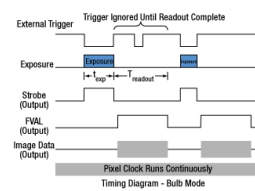

Figure 3: Bulb exposure mode. The exposure
Thermoelectric cooling should also be considered for long exposures even where the dark shot noise is not a significant contributor to total noise because cooling also helps to reduce the effects of hot pixels. Hot pixels cause a "star field" pattern that appears under long exposures. Figure 3 shows an example of this star field pattern for images taken using cameras with and without TEC cooling with an exposure of 10 seconds.
**Figure 3:** Images of the "star field" pattern that results from hot pixels using our (a) standard non-cooled camera and (b) our camera cooled to -20 °C. Both images were taken with an exposure of 10 seconds and with a gain of 32 dB (to make the hot pixels more visible). Please note that in order to show the pattern the images displayed here were cropped from the full-resolution 16 bit images. The full size 16 bit images may be downloaded here and viewed with software such as ImageJ, which is a free download.
- **"HW Trigger" Set to "Bulb (PDX) Mode"**: The camera will operate in bulb exposure mode, also known as Pulse Driven Exposure (PDX) mode (Figure 3).